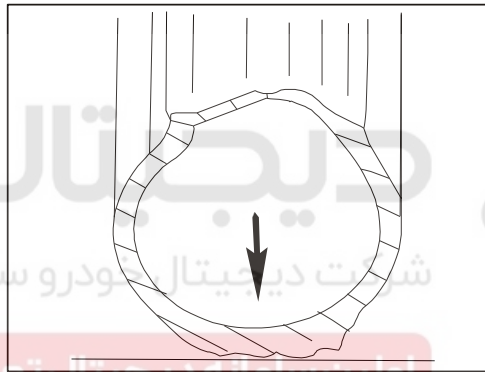

Figure 4-76 High Pressure Tire
(2) Fault diagnosis: High pressure increase load per unit grounding area, accelerate wear in middle of tread. Besides since cord in cord fabric withstands excessive stretching stress, cause early damage of tire.
(3) Fault cause and elimination method: Tire high pressure, or lack of alternation, tire pressure shall be adjusted to specified standard value. As shown in Figure 4-76.